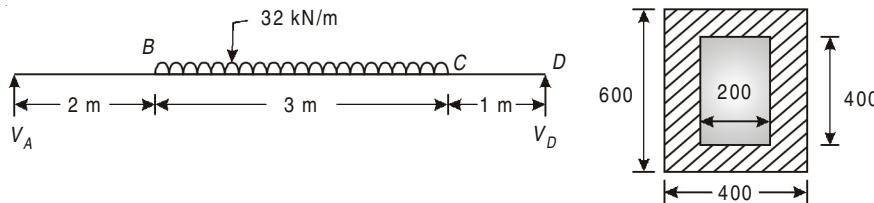

Fig. 4.28
- 4.2.** A simply supported beam *ABCD* 6 m long carries U.D.L 32 kN/m over *BC*. *AB* = 2 m, *BC* = 3 m, *CD* = 1 m. The cross-section of beam is hollow rectangular section as shown in Fig. 4.28. Find maximum deflection for the beam. Take $E = 200 \text{ GPa}$.